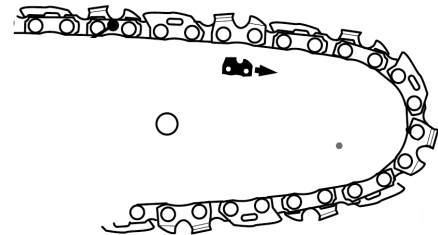

Figure 2
3. Spread the Saw Chain (63) out with the cutting edges of the chain pointing in the direction of rotation.
4. Slide the chain into the slot around the Chain Cover (64). See Figure 2, right.